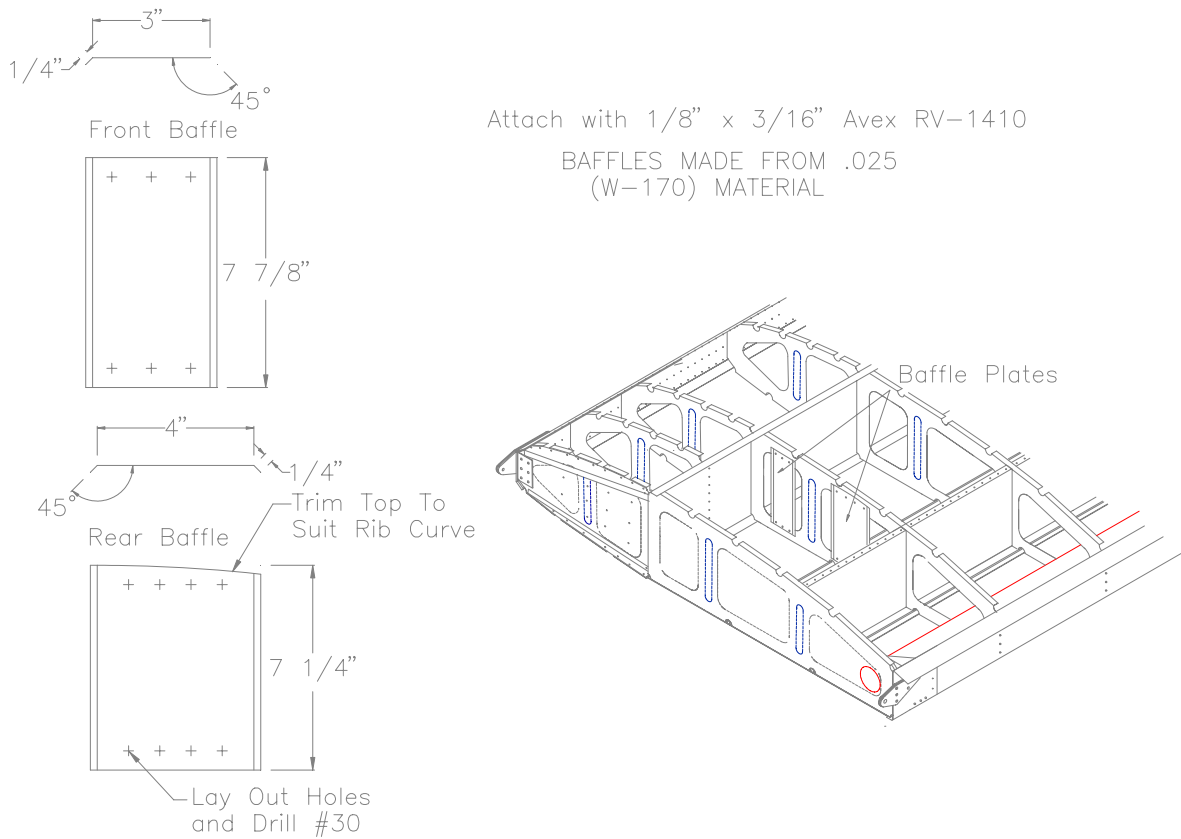

Figure 8.20.3
8) Install two Baffle Plates on each rib. The Baffle Plates will help prevent fuel sloshing. Figure 8.20.3